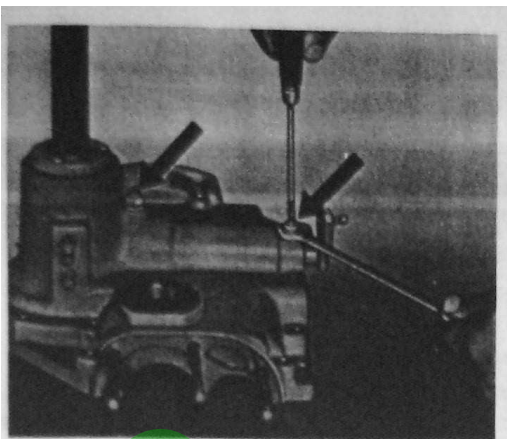

Fig. 65
2. The grub screw with tenon (Fig. 65, right) is then screwed in as far as the shoulder (screwdriver), slackened again by half a turn and secured by tightening the counter nut. The disengaging shaft should be freely movable.
3. Insert steel ball and thrust spring in bore. Screw in grub screw M 10 x 20 (Fig. 65, left) till the disengaging shaft can be smoothly geared and tighten counter nut.